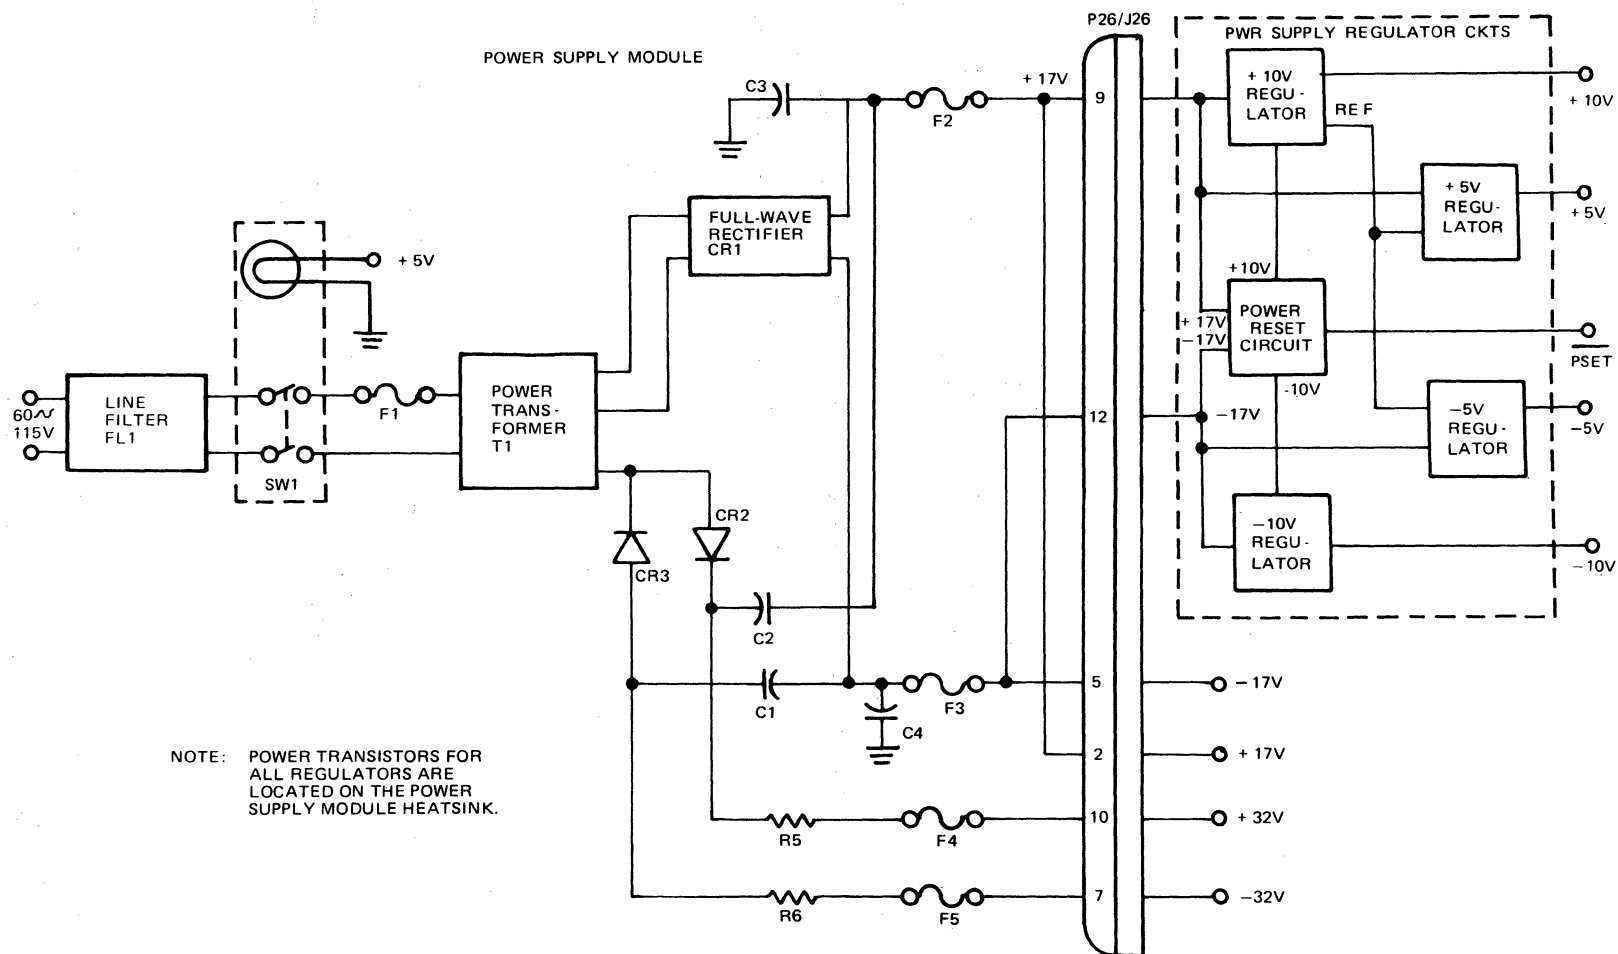

Figure 4-3. Simplified Diagram of Primary Power Circuits
The primary power circuits consist of two parts: (1) a power supply module mounted on the tape unit baseplate (see figure 1-1); and (2) the power supply regulator circuits located on the tape control board. The power supply module (see figure 1-2) contains a power transformer, rectifiers, capacitors, fuses and two power resistors. A heat sink, for mounting the power supply and servo power transistors, is attached to the power supply module. The power transistors on the heat sink are numbered consecutively Q1 through Q11. Power transistor Q1 is located at the top of the heat sink and Q11 is located at the bottom. The power supply regulator circuits consist of the four regulator circuits and a power reset circuit. Figure 4-3 shows a simplified diagram of the primary power circuit. The following paragraphs describe both the power supply module and the power supply regulator circuits.
The power supply module supplies unregulated ± 32 volts to the reel servos, and unregulated ± 17 volts to the reel servos, the capstan servos and the power supply regulator circuits. Refer to figure 4-3. Primary power is supplied through optional line filter FL1 and front panel ON/OFF switch SW1 to step-down transformer T1. The unregulated ± 17 -volt outputs are supplied by full-wave rectifier CR1, and the ± 32 -volt outputs are supplied by half-wave rectifiers CR2 and CR3. Capacitors C1, C2, C3 and C4 are used for filtering the unregulated output of the rectifiers.